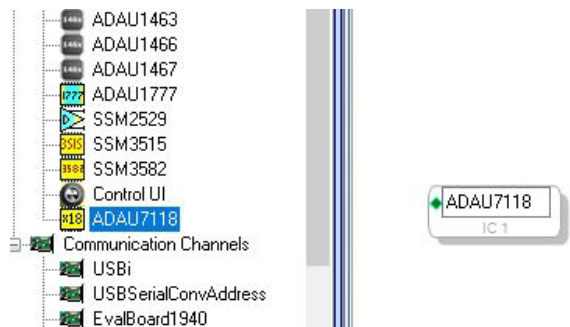

Figure 14. Adding the **ADAU7118** to the SigmaStudio Project
1. Click the icon in the far upper left of the SigmaStudio application window to open a new project. Find the **ADAU7118** in the **Tree Toolbox** (see Figure 14) and drag and drop it in the **Hardware Configuration** tab (see Figure 16).